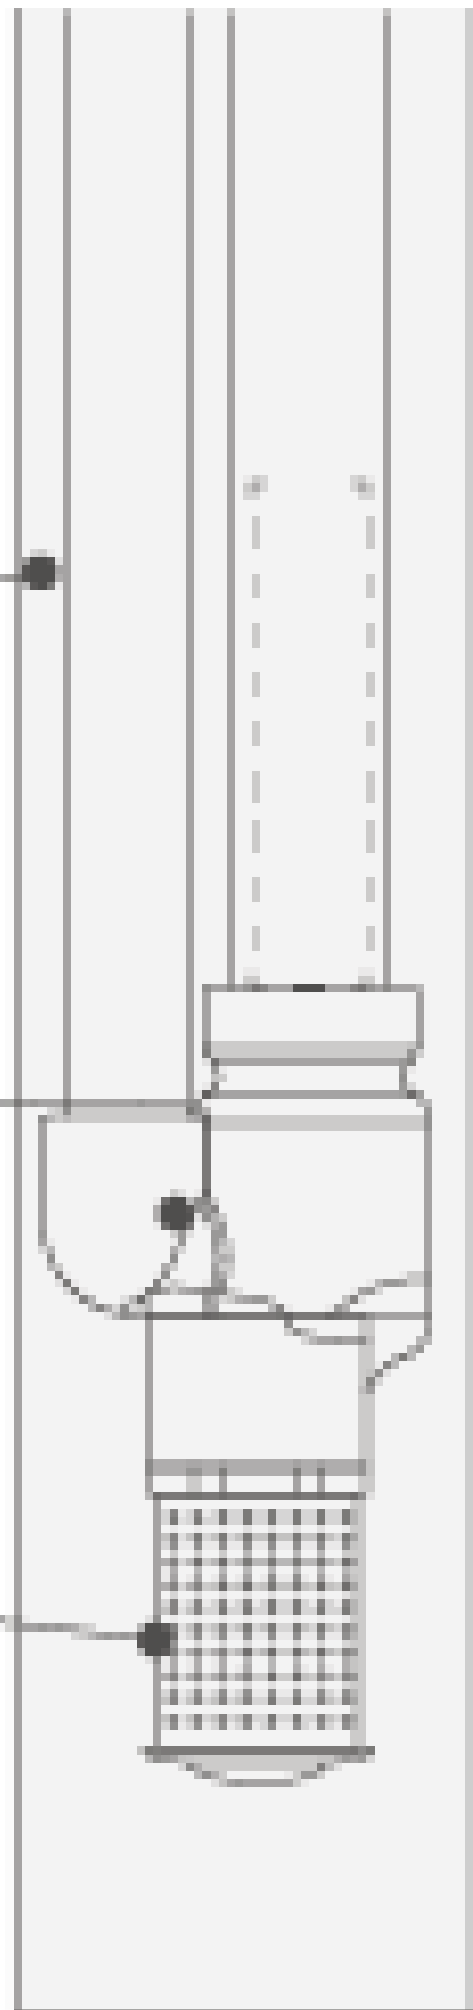

Fig. 1 Jet mono block erection guide
1. Prepare a level concrete foundation for mounting the Jet mono block and tighten the motor base using the foundation bolts as shown in Fig. 1(a) to (d). For Bore Mounted Type Vertical Jet Mono bloc (TSJ Series), mount the set on the bore casing pipe shown in Fig. 7(e).
3. Ensure the Jet Unit with Foot valve and Strainer is fixed to the end of suction and return pipes located inside the bore well (HCSJ, TSJ, TDSJ Series). For the HCS SJ Series ensure the supplied strainer is fitted at the bottom of the suction pipe located in the well. Refer Fig.1, shown above, for recommendations.
- In the HCS 80 / 11 and TDSJ Series, air cock is not provided. The volute casing internal design permits air to rise towards the pressure valve during the priming process when pouring water through the removed filling plug on the pressure valve as shown in Fig. 1 (a) and (b). When the pump is primed, further water cannot be added. Stop pouring water and refit the filling plug.
- In the HCS SJ Series, open the ball valve as shown in Fig. 1 (c), and prime the pump. Shut the valve after priming.
- In the HCS 40/70/90 and TSJ Series, remove the filling plug on the pressure valve and pouring water into it as shown in Fig. 1 (d) and (e), keeping the air cock open to release air. When the pump is primed, water continuously flows through the air cock. The pump is now primed. Stop pouring water, close the air cock and refit the filling plug.